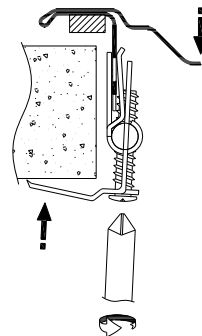

Fig 2.
12. Fix the sink to the worktop by tightening the screws on the fixing clips clockwise (fig. 2) using a crosshead screwdriver, the sink frame will pull down tight and flat to the top surface to the worktop.